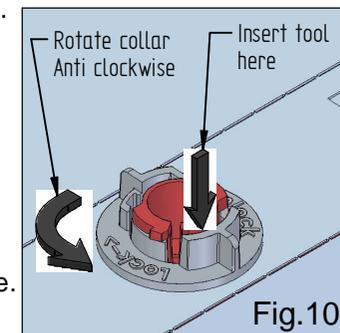

Fig.10
- Place a flat bladed tool between the retaining collars & the spigot where indicated (Fig.10) & force clip inwards whilst turning collars in anti clockwise direction to release.